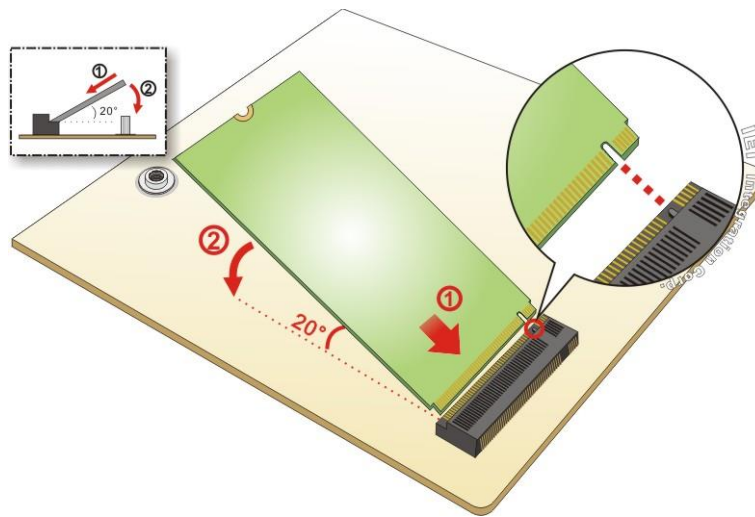

Figure 3-10: Inserting the M.2 Module into the Slot at an Angle
Step 4: Line up the notch on the module with the notch on the slot. Slide the M.2 module into the socket at an angle of about 20° (Figure 3-10).